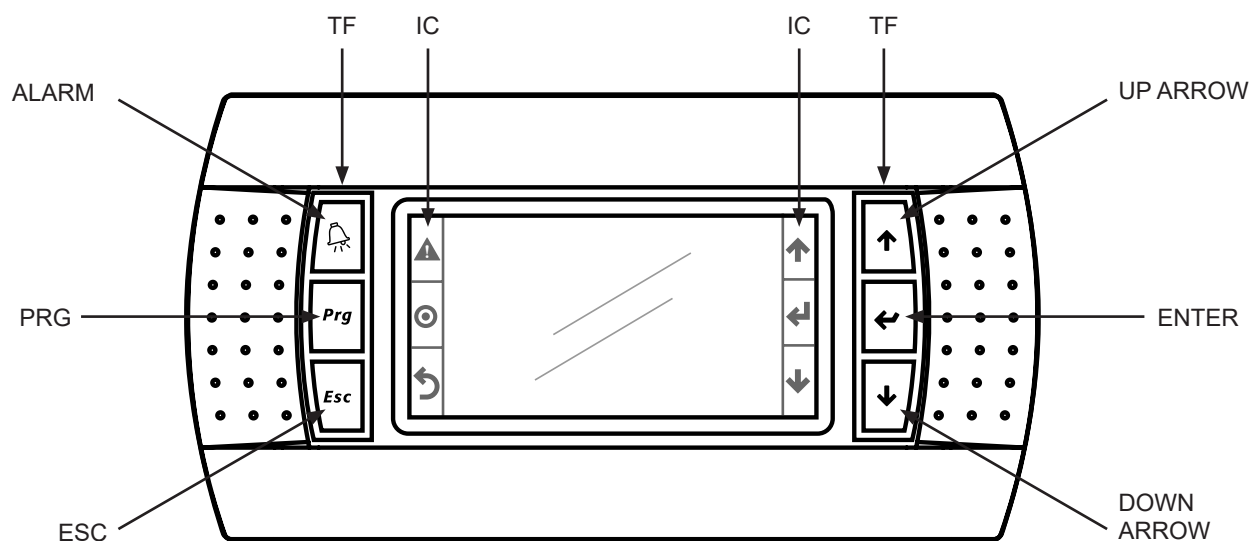

Figure 14
- 9.10 Remote panel (A2) consists of a central display and 3+3 physical side keys: to the left of the display are the "ALARM", "PRG", "ESC" keys, to the right the "UP ARROW", "ENTER", "DOWN ARROW" keys. See Figure 14. The function of the physical TF keys is made explicit by the corresponding IC icons on the display.